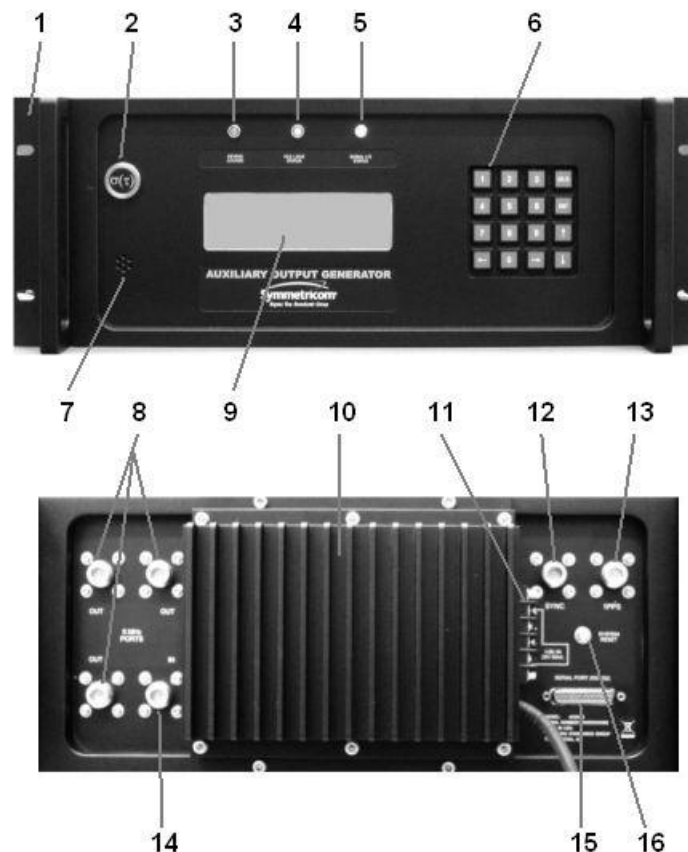

Figure 3.2. AOG Controls and Connectors
The key operational features of the AOG device are identified in the following list and Figure 3.2.
- (1) If you have not already done so, plug the AOG into the proper power source.
- (2) Connect the reference to the input port shown in Figure 3.2. Allow at least 20 minutes for the VCO to stabilize. If the VCO lock light is green and the VCO phase voltage is within ± 0.25 volts of the nominal 2.25 volt center voltage, VCO coarse frequency adjustment will not be required.
- (3) If the VCO lock indicator blinks or is still red after 20 minutes, or the VCO voltage is outside the desired range given above, the VCO coarse frequency will need to be adjusted as described in step (5) – (6); otherwise, proceed to step (4).
- (4) The AOG temperature control station (TCS) requires about 4 hours to warm up and must be balanced to minimize thermally induced phase variations of the output. At saturation the voltage will be about 7.3 volts; when balanced and with the ambient temperature at about 22°C, the voltage will be within about 2 - 3 volts.
- (5) If the VCO Lock Status indicates an unlock condition, select the widest bandwidth from the PLL Bandwidth menu. If the AOG locks, go to step (8); if not, select the Set Immediate option from the Frequency Menu (see Chapter 4 for details if you are not familiar with AOG menu operations before proceeding to step (6)).
- (6) If the phase voltage indicates less than 1.25 volts or greater than 3.75 volts, select the digit representing 10^{-8} offset and increase or decrease this digit in steps of one until the VCO Lock Status turns green and the VCO voltage is between 1.25 and 3.75 volts. If the VCO will not lock to the reference input, the course frequency control may need to be adjusted or the stability or amplitude of the reference may need to be checked. See Section 6.1 for detailed VCO locking instructions.
- (7) Select the PLL bandwidth that will be used for your system. If VCO lock is lost, go to steps (5) and (6) but use a smaller offset adjustment. Note that at narrow bandwidths the VCO may take some time before locking up. Also, the VCO lock light may flash when changing the first or second most significant digit.
- (8) When TCS and VCO thermal controls are balanced and the VCO is